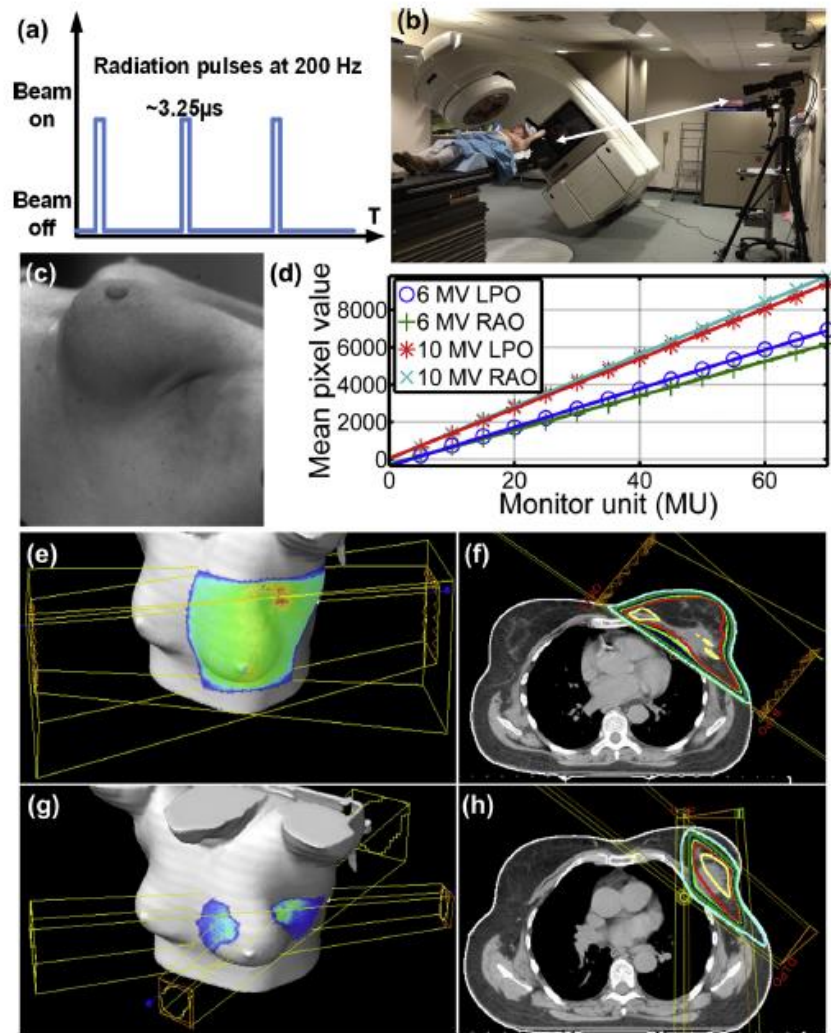

Fig. 1. Integration of ICCD camera into a radiation treatment unit for clinical detection of Cherenkov emission images. (a)
**Fig. 1** Adaptation of surface imaging-guided technology to radiosurgery (SIG-RS). **a** Representative customizable open-face thermoplastic mask used for immobilization. **b** Three ceiling-mounted nonionizing camera pods track the patient's facial topography. **c** Three dimensional reconstruction of facial topography is used to identify the region of interest. Facial topography and region of interest are monitored in real-time to detect intrafraction deviations of patient positioning